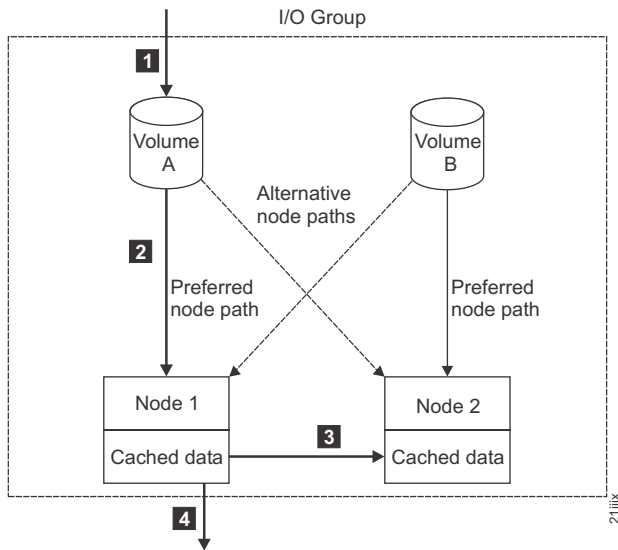

Figure 8. I/O group
Figure 8 on page 19 shows a write operation from a host (1), that is targeted for volume A. This write is targeted at the preferred node, Node 1 (2). The write operation is cached and a copy of the data is made in the partner node, the cache for Node 2 (3). The host views the write as complete. At some later time, the data is written, or de-staged, to storage (4).